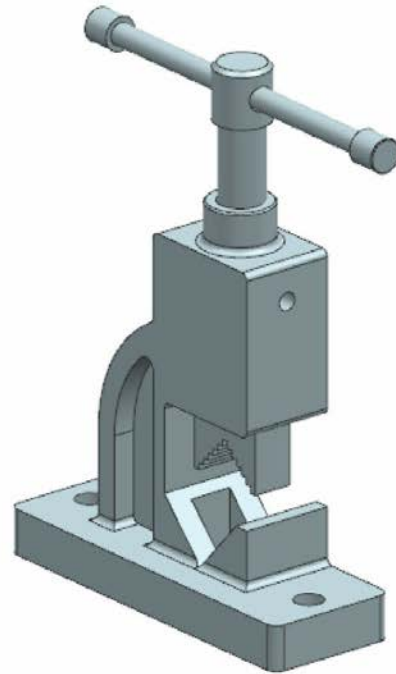

Figure 8-77 *The final Pipe Vice assembly*
14. Change the reference set of all the components to **MODEL**. Also, change the texture of the Base component from transparent to solid. The final Pipe Vice assembly is shown in Figure 8-77.
*To turn off the display of the constraints, as shown in Figure 8-77, choose the **Assembly Navigator** tab from the **Resource Bar**; the **Assembly Navigator** cascading menu is displayed. Next, right-click on the **Constraints** node; a shortcut menu is displayed. Next, clear the check mark on the left of the **Display Constraints in Graphics Window** option by choosing it.*